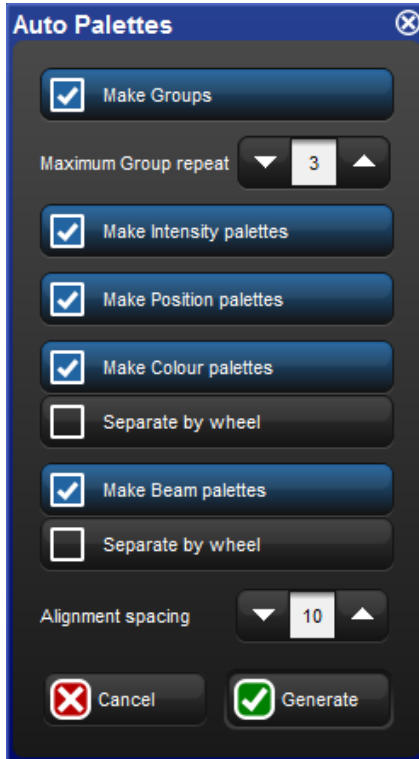

Figure 5.10. The Auto Palettes window
2. Click on the Auto Palettes button (located in the toolbar at the top of the Fixture window) and select from the options in the Auto Palettes window; see Figure 5.10, “The Auto Palettes window”.